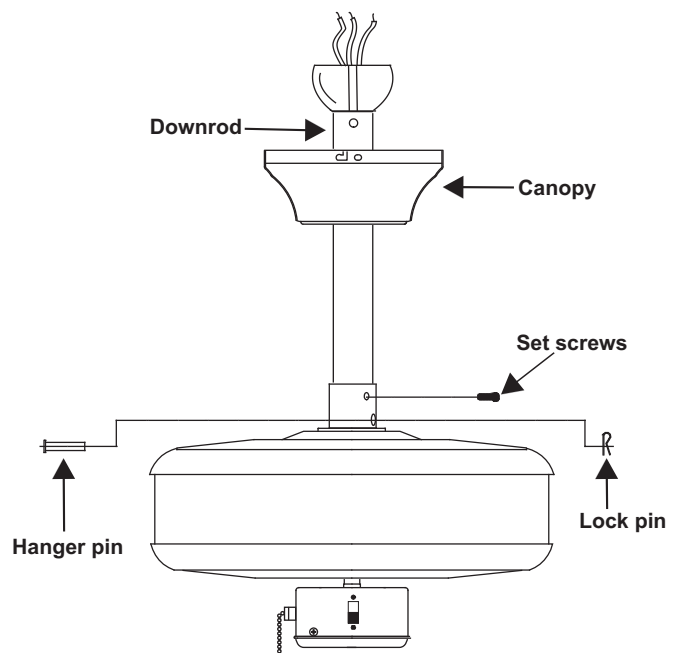

Figure 6
Step 4. Route wires exiting from the top of the fan motor through the canopy and then through the ball/downrod. (Fig. 6)
Step 5. Align the holes at the bottom of the downrod with the holes in the collar on top of the motor housing. Carefully insert the hanger pin through the holes in the collar and downrod. Be careful not to jam the pin against the wiring inside the downrod. Insert the lock pin through the hole near the end of the hanger pin until it snaps into its locked position. (Fig. 6)